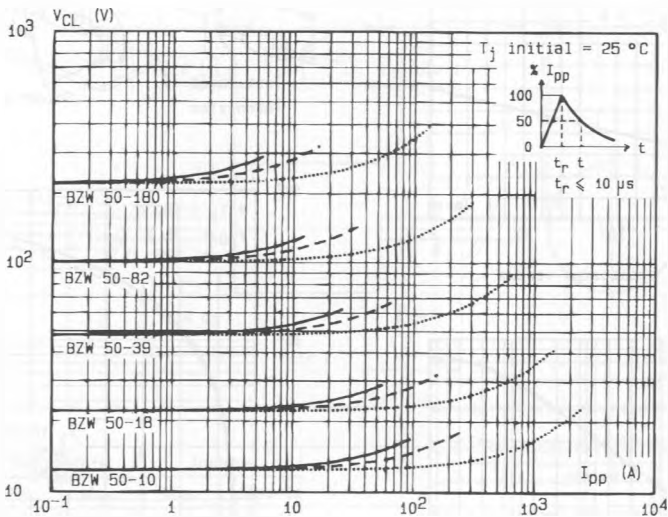

Fig.2 - Clamping voltage versus peak pulse current.
Note : The curves of the figure 2 are specified for a junction temperature of 25 °C before surge. The given results may be extrapolated for other junction temperatures by using the following formula : $\Delta V (BR) = \alpha T (V (BR)) \times [T_j - 25] \times V (BR)$